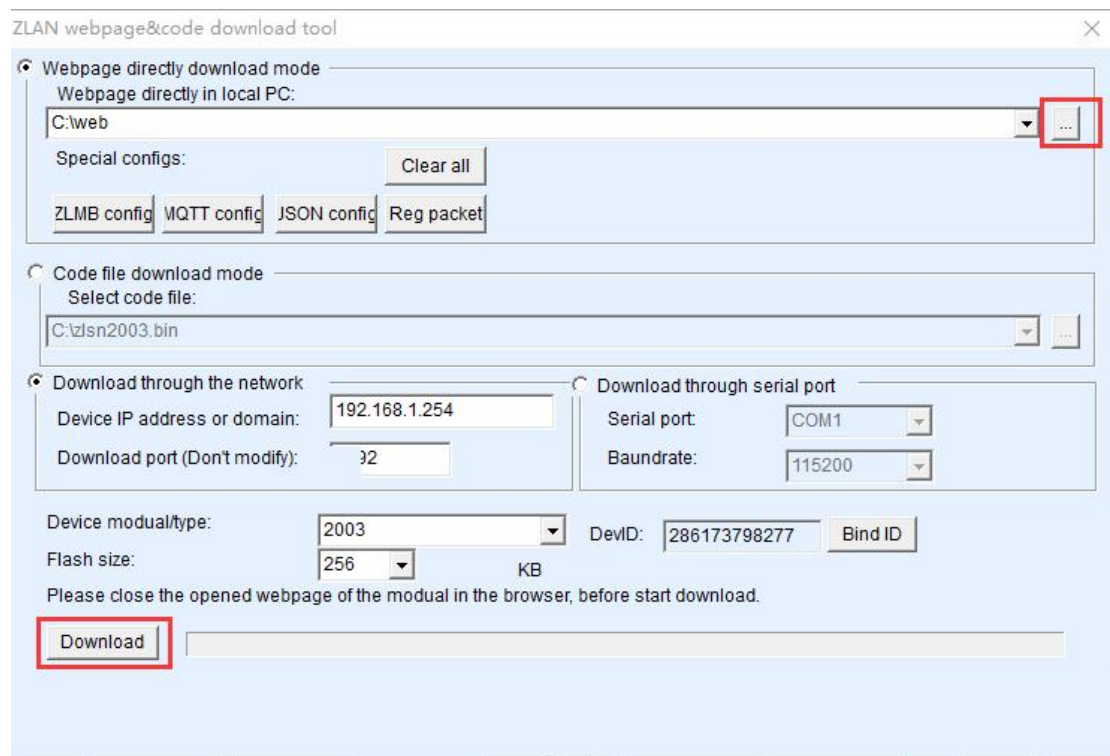

Figure 43 ZLSN2003 Web Upgrade Method
6. Web Configuration Interface Update: After the firmware upgrade, the internal configuration web page of the module also needs to be updated, otherwise, it will not be possible to configure via the web interface again, but it will not affect communication. If there is no need for web configuration, there is no need to download the web page. The method to download the web page is as follows: As shown in Figure 43, change the "Code File download mode" to "Webpage directly Download." Select the local web page's root directory as the directory where the web page files to be downloaded are located (this directory can be obtained from Seengreat), click "Download," and download all the files in the local web directory to the device's internal file system.